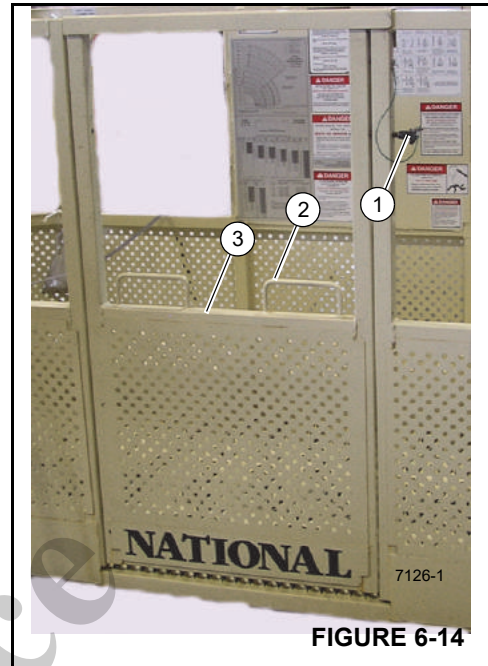

FIGURE 6-14
2. Connect the safety harness to the anchor point. Close the platform gate (3, Figure 6-14) by lifting up on the gate grab handle (2) and move the gate to the closed position, reinstall the safety pin (1).
1. To enter the platform, remove the gate locking pin (1, Figure 6-14), pull up on the grab handle (2) and swing the gate (3) open.